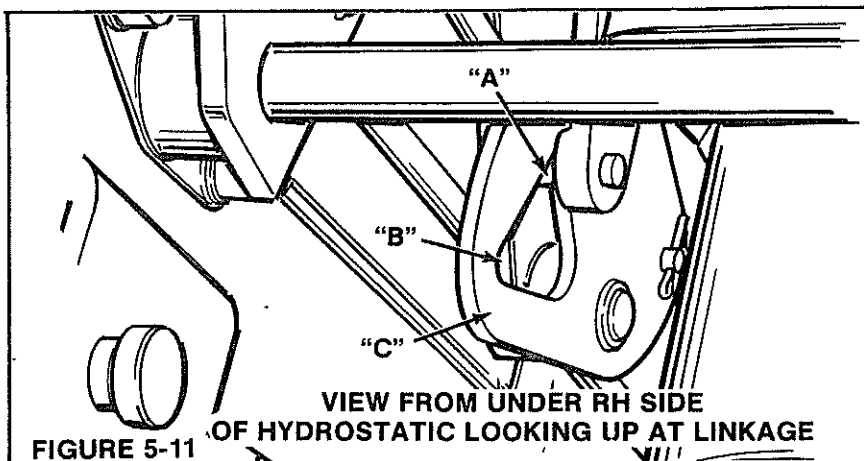

FIGURE 5-11
1. One switch is on the brake linkage. To check adjustment depress brake pedal. When brake pads contact disc, pin (A) should just be in slot (B) of lever (C) Figure 5-11. If switch does not activate adjust as follows: